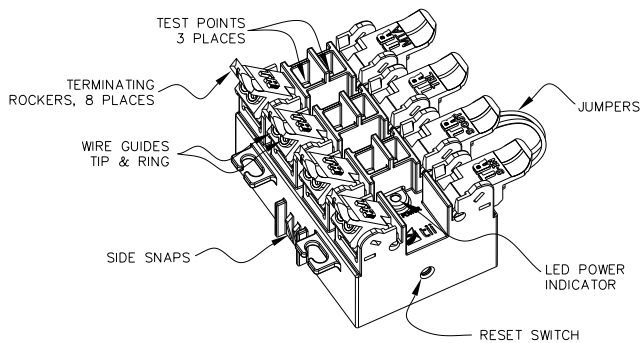

Figure 1
7. If a security alarm is installed at the customer premises, remove the Green/Red wire jumpers from the Orange S-Out and S-In rockers by lifting the rockers up and pulling the jumper wires out. (See Fig. 1)
2. **Gently** push the reset button once with a blunt object to ensure the service to the customer is switched from Digital to Telco. (See Fig. 1)